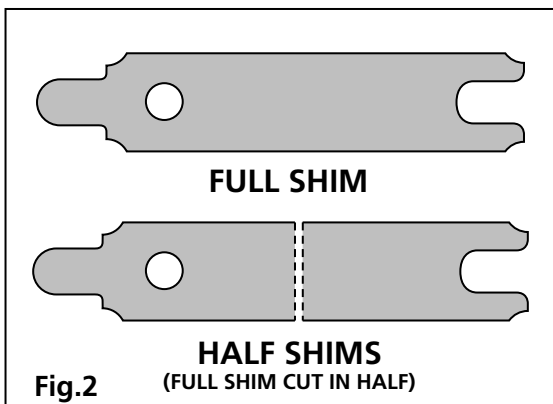

Fig.2
- ▶ To achieve correct gap between ring gear and starter drive, usage of one or more shims **may be required** on certain GM engines. (See Fig. 2)